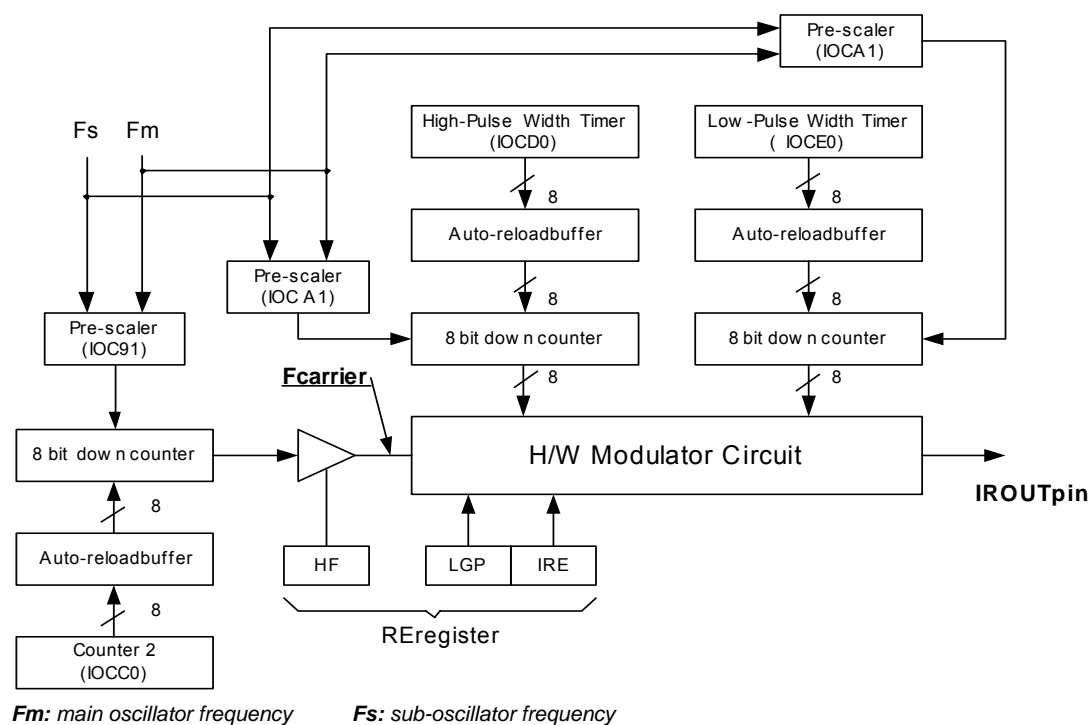

Figure 6-20 IR/PWM System Block Diagram
This LSI can output infrared carrier in user-friendly or in PWM standard waveform. The IR and PWM waveform generated functions include an 8-bit down count timer/counter, high-pulse width timer, low-pulse width timer, and IR control register. The IR system block diagram is shown in Figure 6-20. The IROUT pin waveform is determined by IR control register (RE), IOC90 (Counters 1 and 2 control register), IOCA0 (high-pulse width timer, low-pulse width timer control register), IOCC0 (Counter 2 preset), IOCD0 (high-pulse width timer preset register), and IOCE0 (low-pulse width timer preset register). Details on $F_{carrier}$, high-pulse time, and low pulse time are explained as follows: